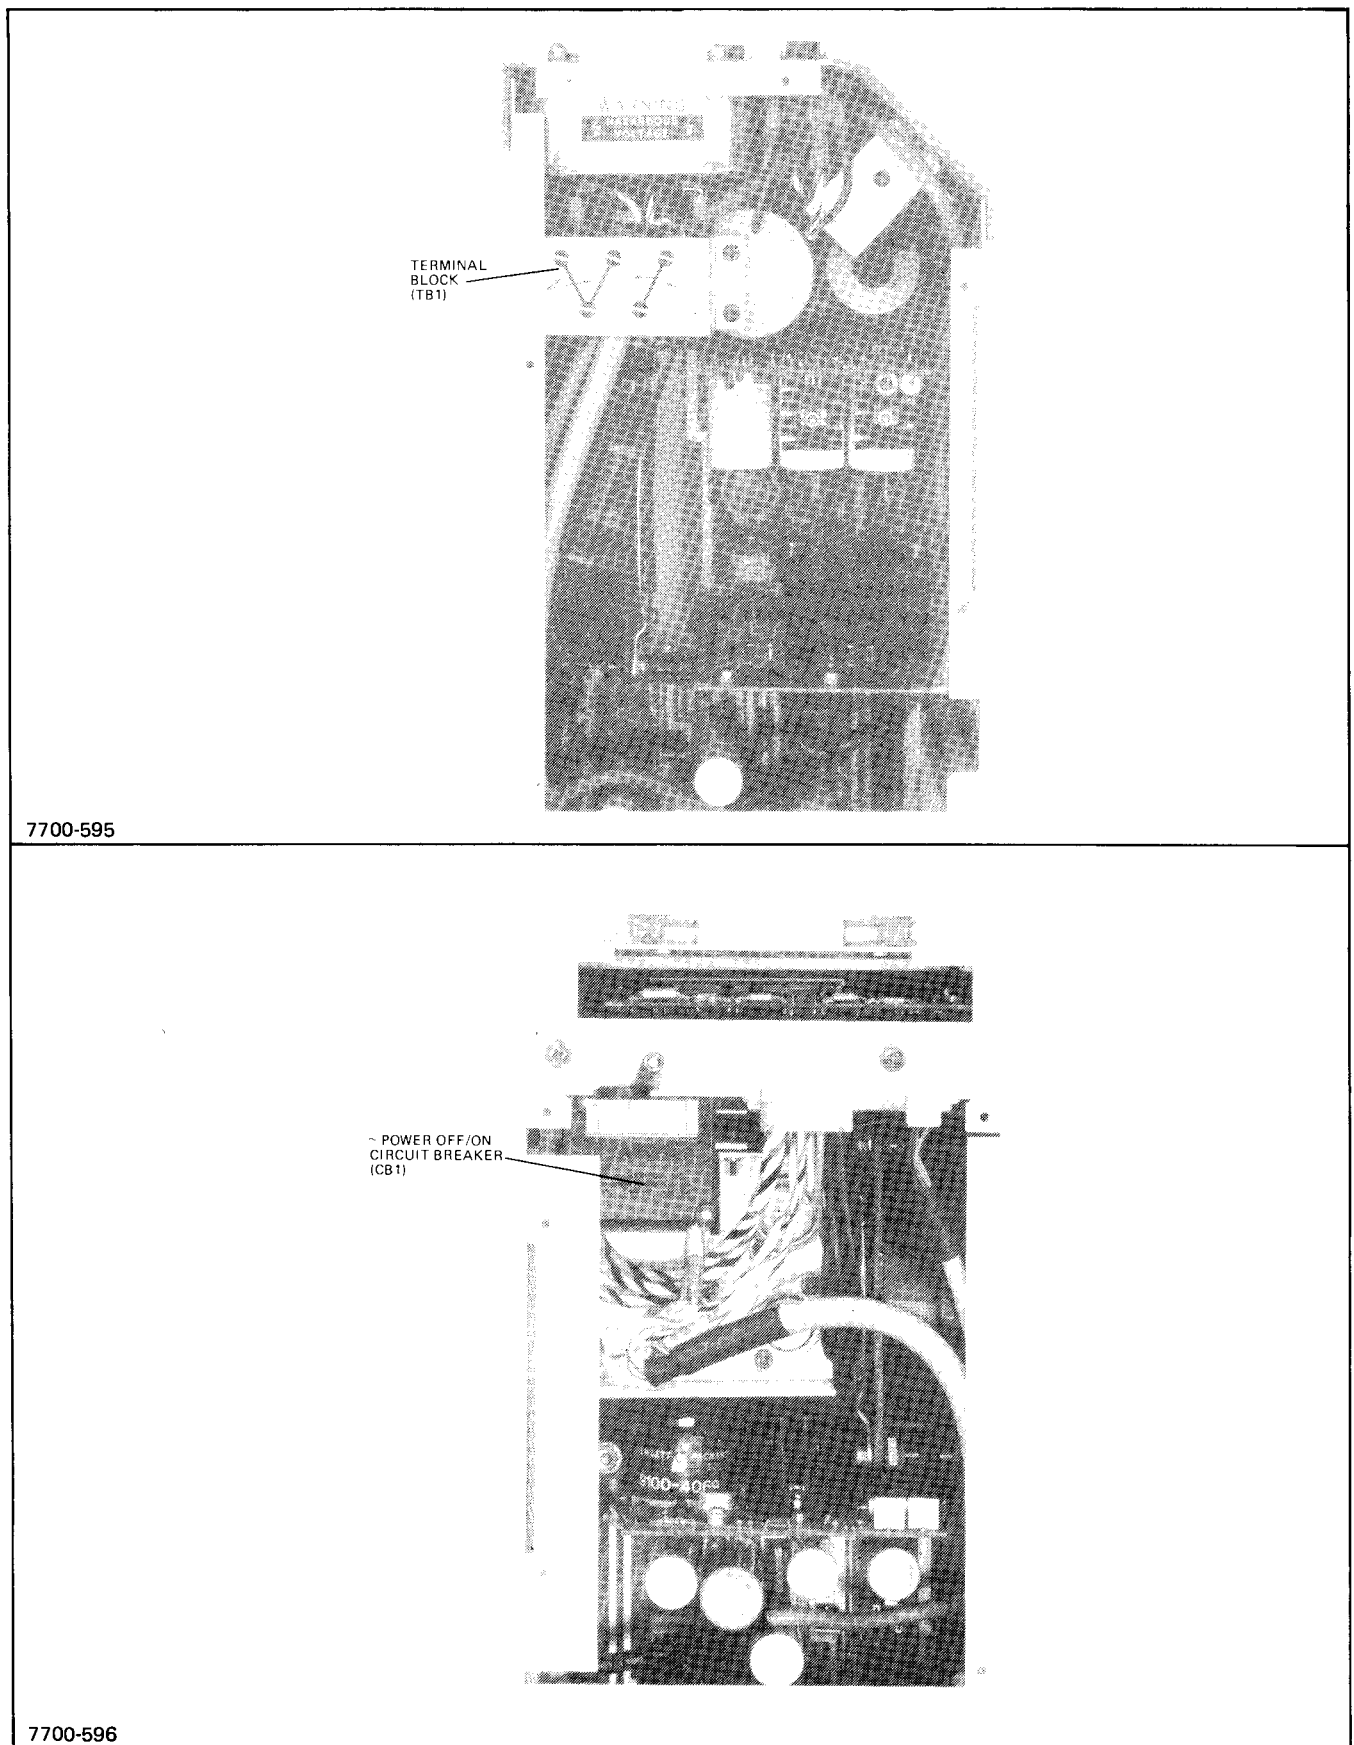

Figure 2-13. Internal Views of the Power Supply Circuit Breaker and Terminal Block
- c. Disconnect the fan power cords from the terminal board (TB1) in the power supply. (See figure 2-13.)
To reconfigure the HP 2109B or the HP 2113B to operate from a 220-volt power source instead of a 110-volt power source (or vice versa), refer to figures 2-13 and 2-18 and proceed as follows:
- d. Remove the top cover from the power supply and the protective cover from TB1 (see figure 2-13).
- e. For 110 Vac operation, connect jumpers and wires as shown in figures 2-13 and 2-18.
- f. For 220 Vac operation, connect the jumpers and wires as shown in figures 2-13 and 2-18.